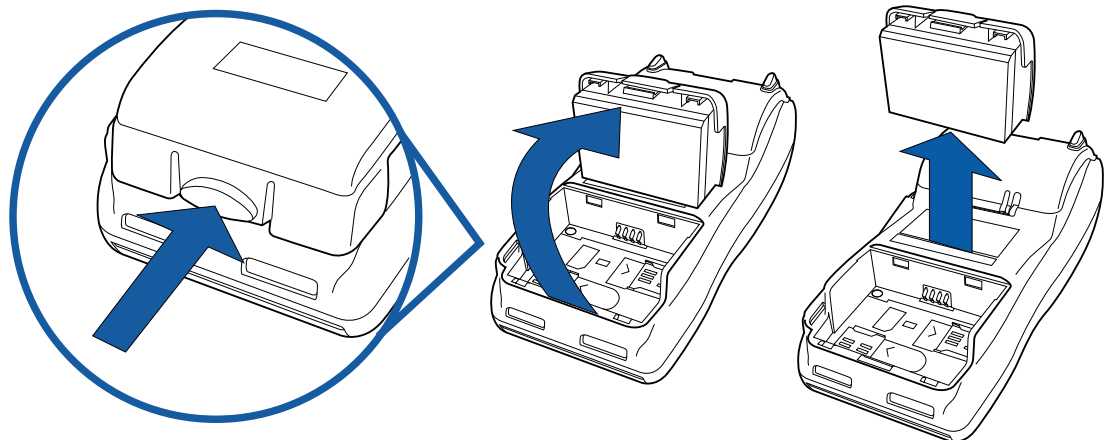

Figure 21 Removing the Smart Battery
- 4 Remove the battery to expose the SIM/R-UIM compartment, as shown in Figure 21.
- 3 Remove the battery (see Figure 21).